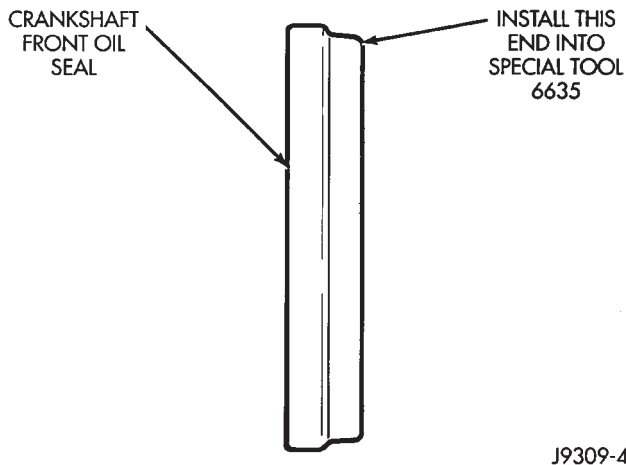

Fig. 49 Placing Oil Seal on Installation Tool 6635
- (1) Place the smaller diameter of the oil seal over Front Oil Seal Installation Tool 6635 (Fig. 49). Seat the oil seal in the groove of the tool.